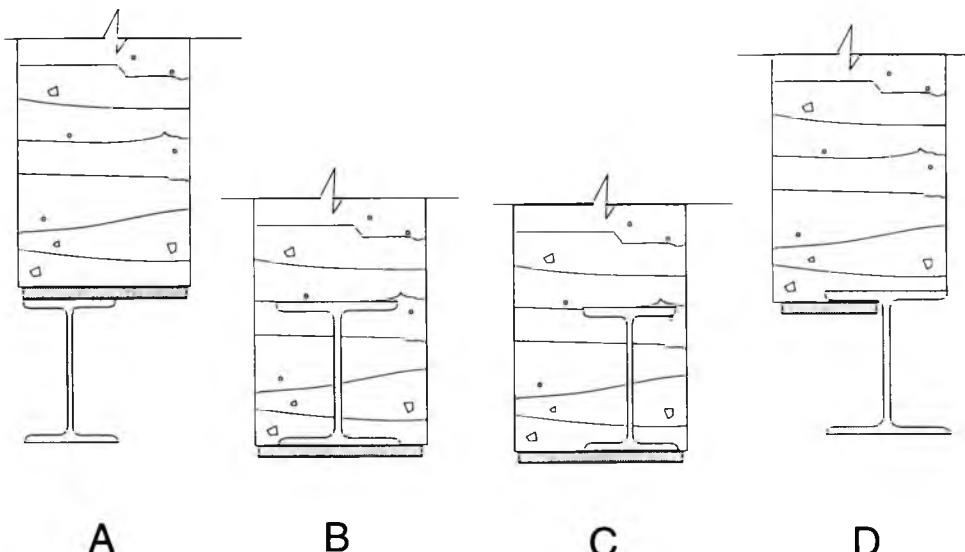

Figure 18-17: Cross-sectional views of steel beams supporting masonry walls.
30. Which diagram in Figure 18-17 illustrates the most structurally-sound installation?